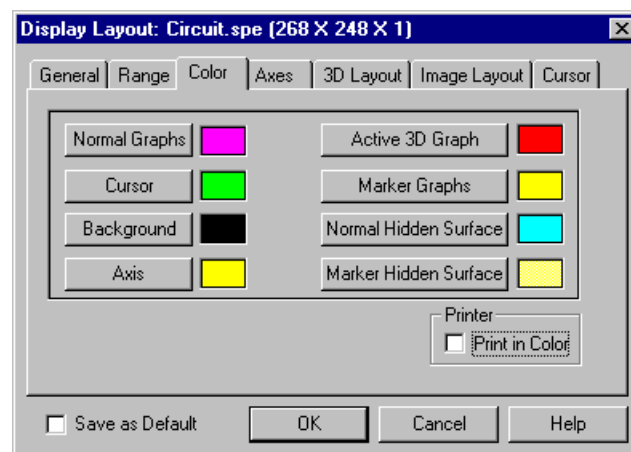

Figure 109. Color tab page
2. Click on **Axis**. The color palette will open as shown in Figure 109.